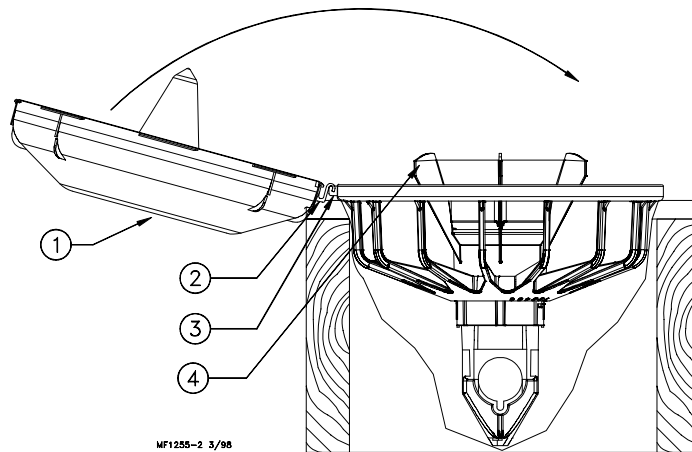

Figure 17. Assembling Pan to C2 Plus Grill
3. Interlock the hinge hook on the pan with the hinge lip on the grill. The pan should be face up, as shown in Figure 17.